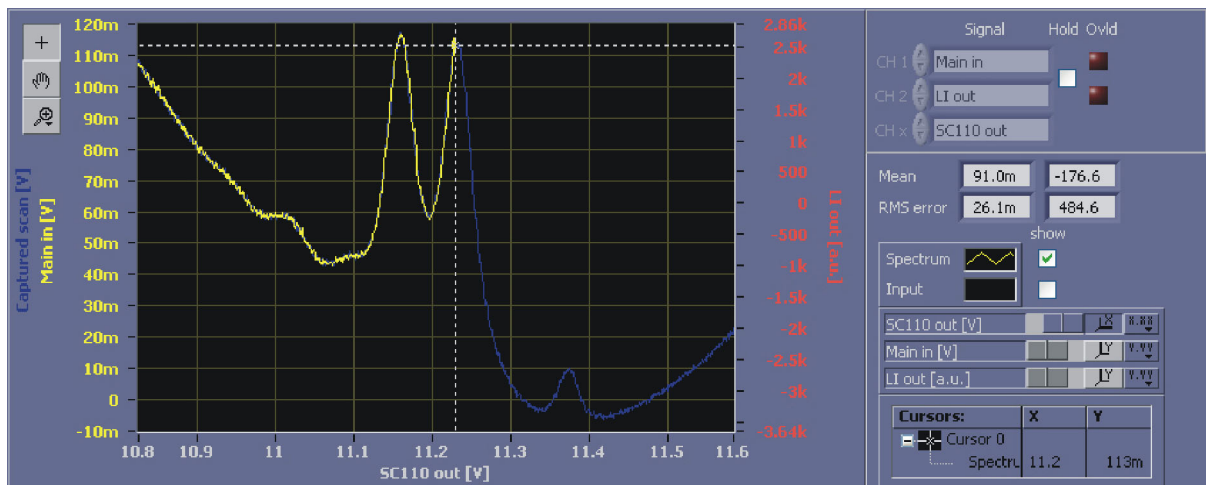

Figure 51 AutoLock display while the lock is triggered (*LI/PDH: Lock to extremum*)
26. To initiate the lock, perform a right mouse click to access the context menu and select *LI/PDH: Lock to extremum*. The trace changes its color (here from yellow to blue) to show that the actual trace is captured in the background. During the next scan the lock is triggered. Figure 51 shows the AutoLock display while the lock is triggered. The blue trace is the captured signal of the last scan. The yellow trace is the scan during which the lock is triggered. You can see that the trace stops at the selected peak. After a while the yellow trace disappears and there is only a scatter plot left. The interpretation of this plot and the optimization of the lock can be found in section 10.2.1. For optimization of the PID parameters see section 9.3.